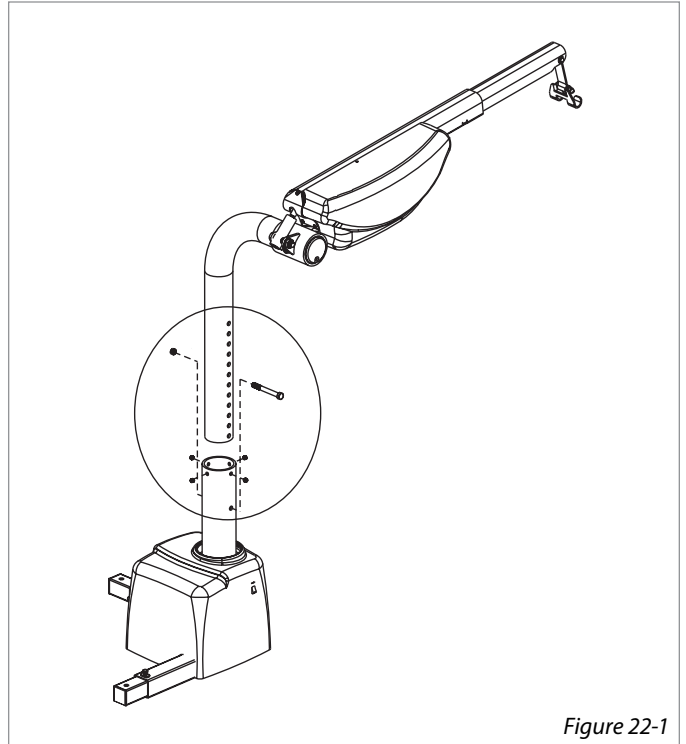

Figure 22-1
- Loosen set screws (x4) [Figure 22-1]